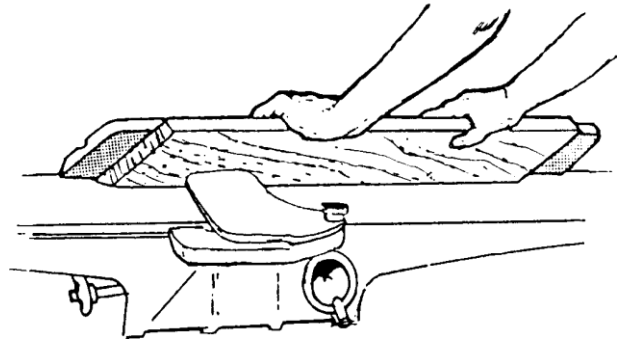

FIG. 32
**CAUTION:** Although fence may be tilted in or out for bevel cut, We recommends for safety reasons the fence be tilted in, if possible, making a cradled cut (Fig. 32).